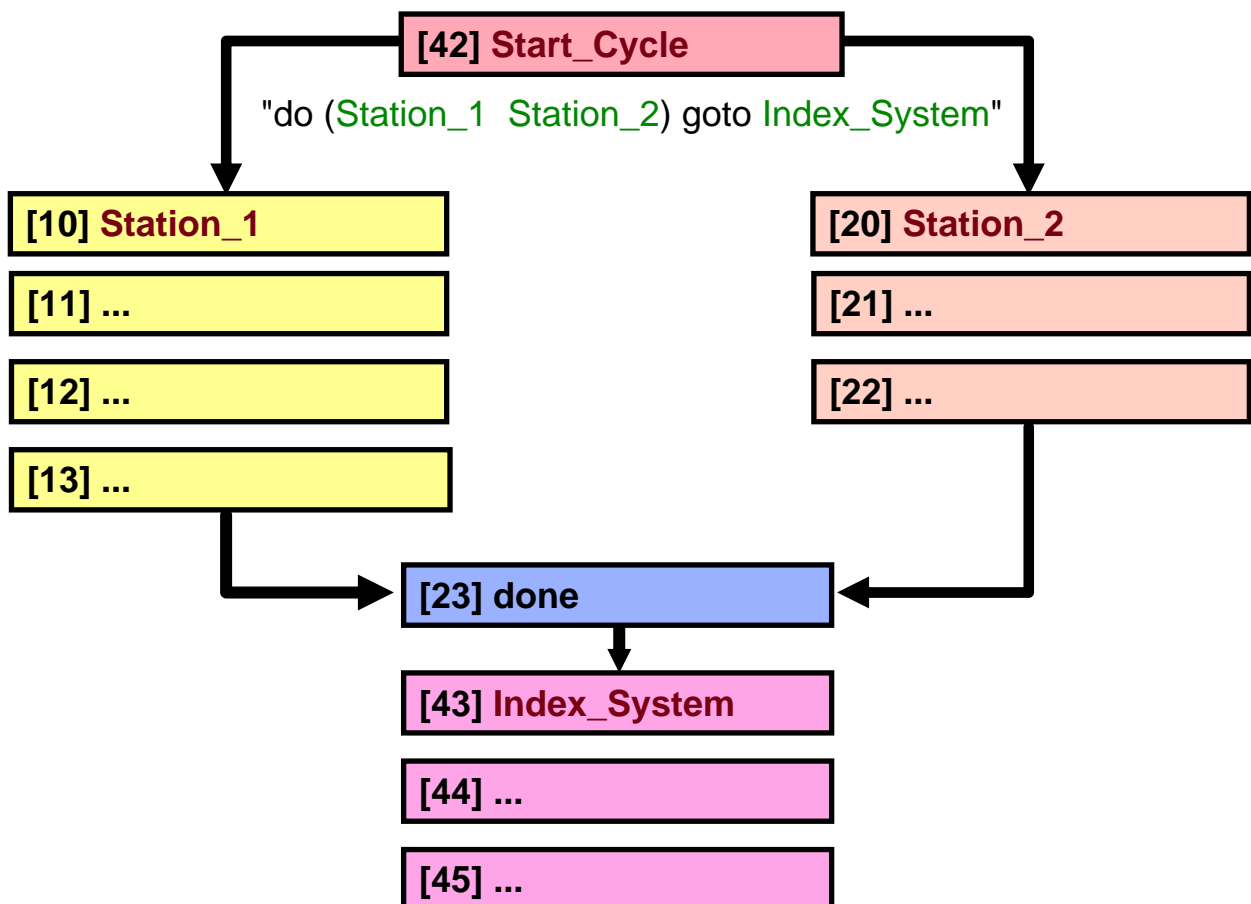

Figure 1: Flow chart depicting two finite Tasks
- 7) Tasks can be finite or infinite (i.e. you can program them to finish with a done statement or you can program them to continuously run forever and never execute a done statement). See Figures 1 and 2.